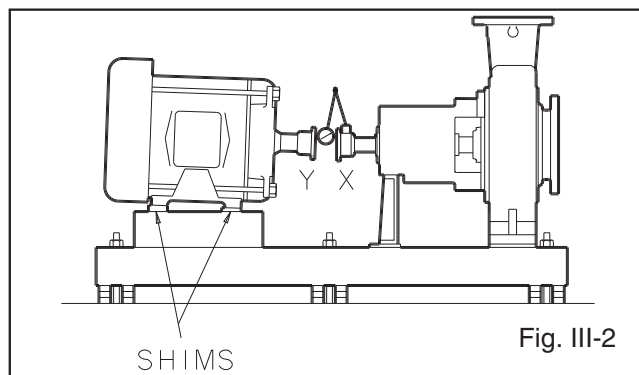

Fig. III-2
3. **Negative Reading** - The coupling halves are further apart at the bottom than at the top. Correct by either raising the driver feet at the shaft end (add shims) or lowering the driver feet at the other end (remove shims), (Fig. III-2).